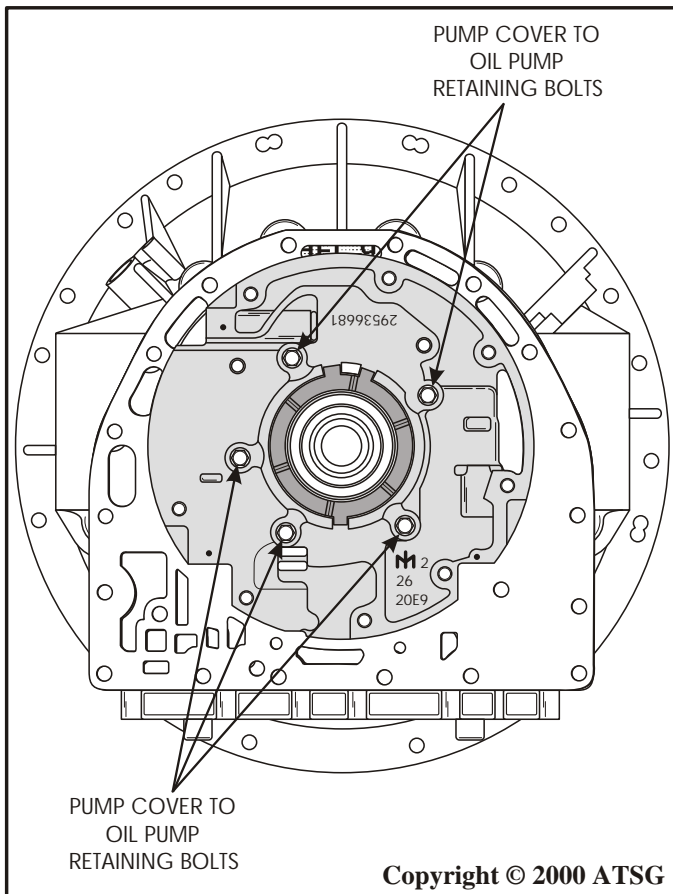
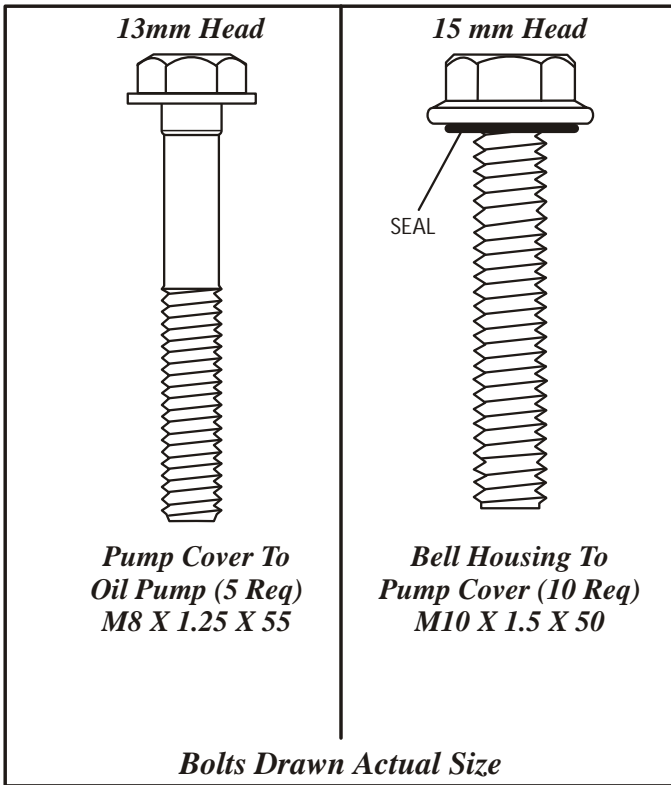
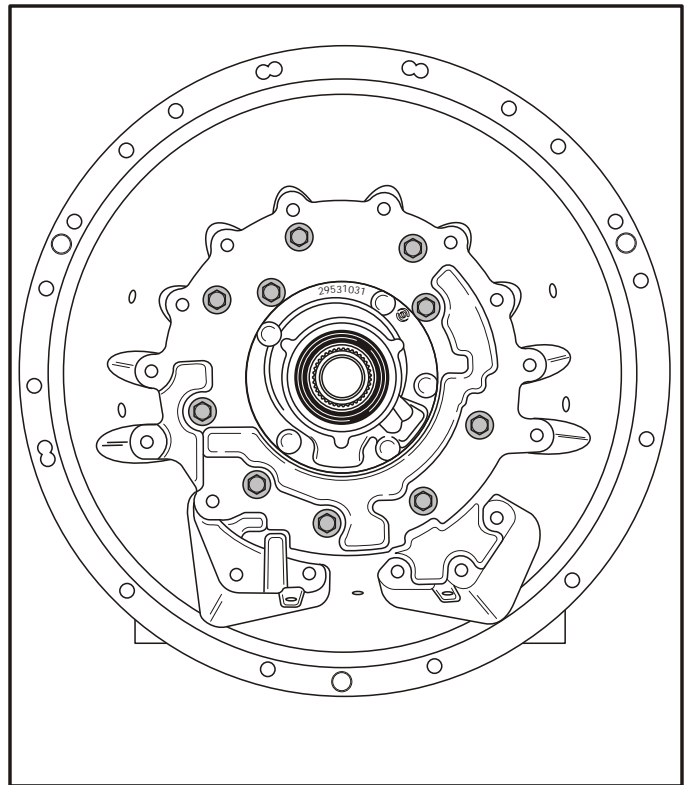

Figure 93
Figure 95
Figure 96
25. Install the 5 required pump cover to oil pump retaining bolts, size identified in Figure 95 and location is identified in Figure 93, and torque the bolts to 27 Nm (20 ft.lb.).
27. Install the 10 required bell housing to pump cover bolts, size identified in Figure 95 and location is identified in Figure 96, and torque the bolts to 43 Nm (32 ft.lb.).
Note: Notice in Figure 95 that these 10 bolts have a required seal on the bolt. Ensure that new seals are installed.